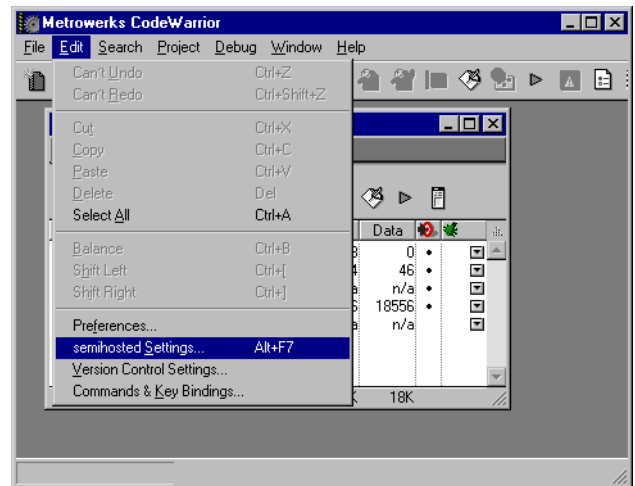

Figure 3-19 Changing the settings
2. Select **Edit** → **semihosted settings** to display the settings dialog (see Figure 3-19).